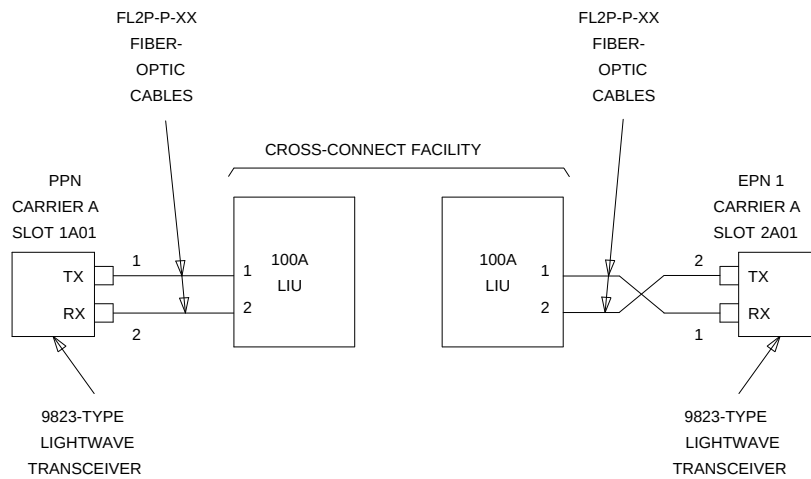
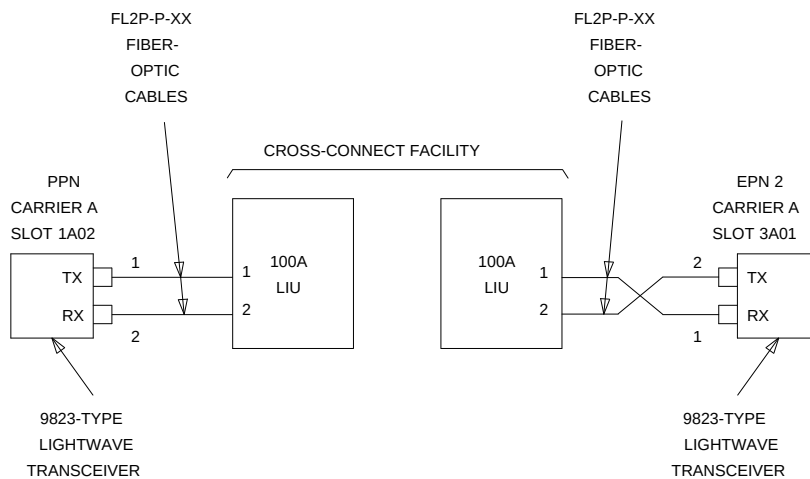
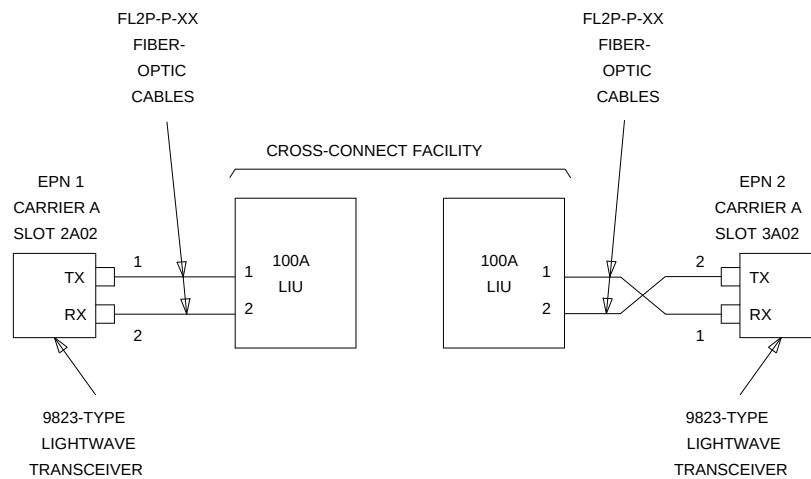

Figure 7-15. Fiber-Optic Connections PPN to EPN1
Figure 7-16. Fiber-Optic Connections PPN to EPN2
Figure 7-17. Fiber-Optic Connections EPN1 to EPN2
1. Behind control carrier A of PPN cabinet 1 (see Figure Figure 7-14, Figure 7-15, Figure 7-16, and Figure 7-17):